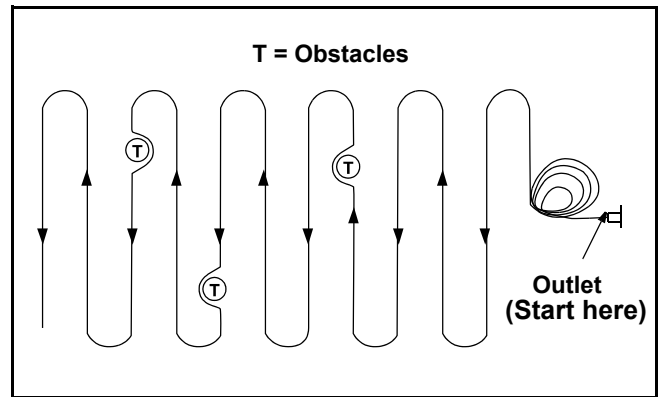

Figure 12
- Always start from the **point closest to the power source** where the cord is connected. Never mow around the lawn in circles; travel back and forth across the lawn, starting from the point closest to the outlet and then moving away from the outlet so the cord lies in the cut portion of the lawn, out of the way. See Figure 12.